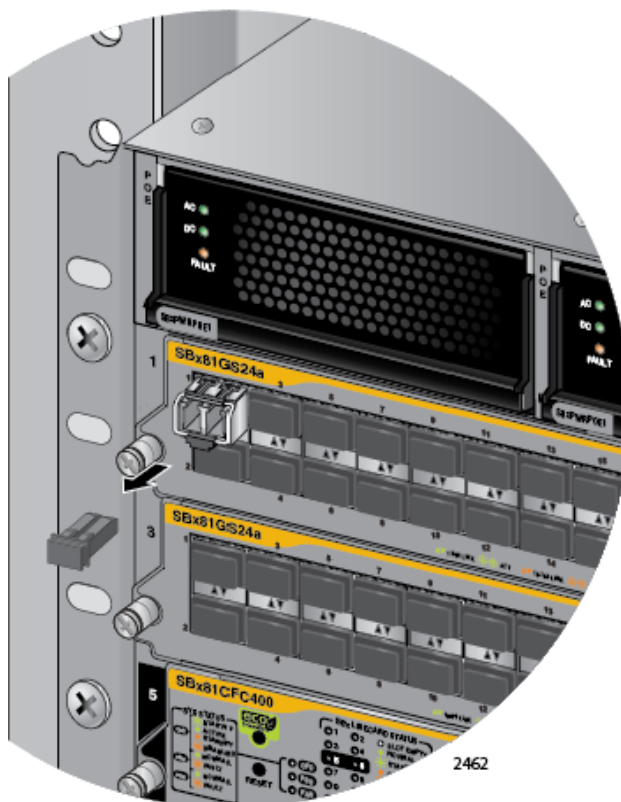

Figure 83. Removing the Dust Cover from the SFP Transceiver in the AT-SBx81GS24a Line Card
5. Remove the protective cover from the SFP transceiver, as shown in Figure 83.